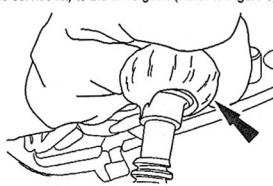

FIGURE 6
- Remove the four (4) gearbox screws and separate the case gearbox housing halves. (Refer to Figure 6).
- Apply grease (supplied with the service kit) to the drive gear. (Refer to Figure 6).